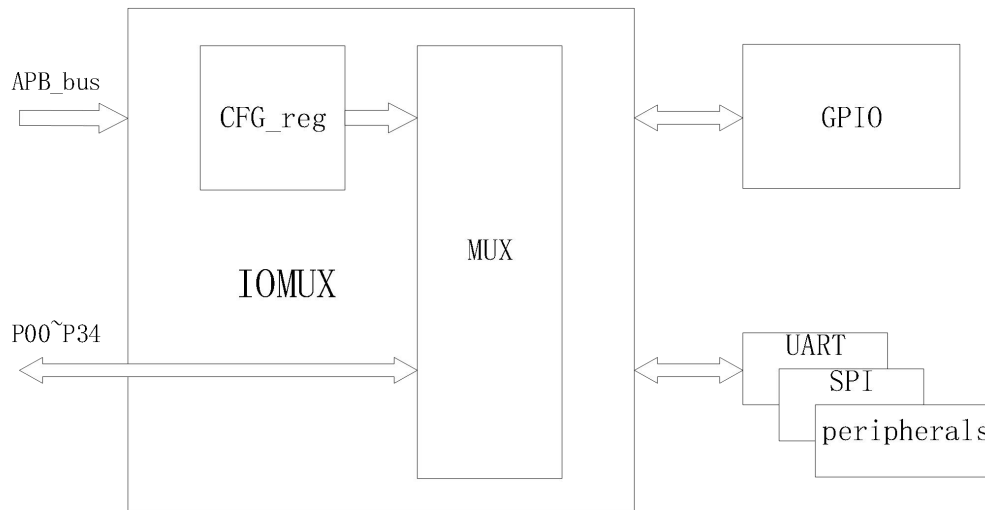

**Figure 9: Clock structure diagram**
**Figure 9** below shows the IOMUX functional diagram.